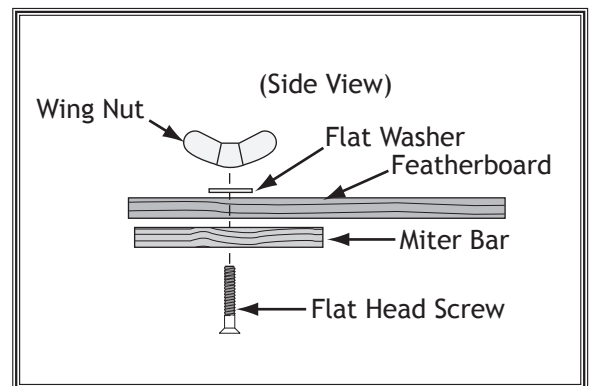

Figure 75. Assembling miter slot featherboard components.
8. Assemble the miter bar and featherboard with a $\frac{1}{4}$ "-20 x flat head screw, flat washer, and a wing nut or a star knob (see **Figure 75**). Congratulations! Your featherboard is complete.